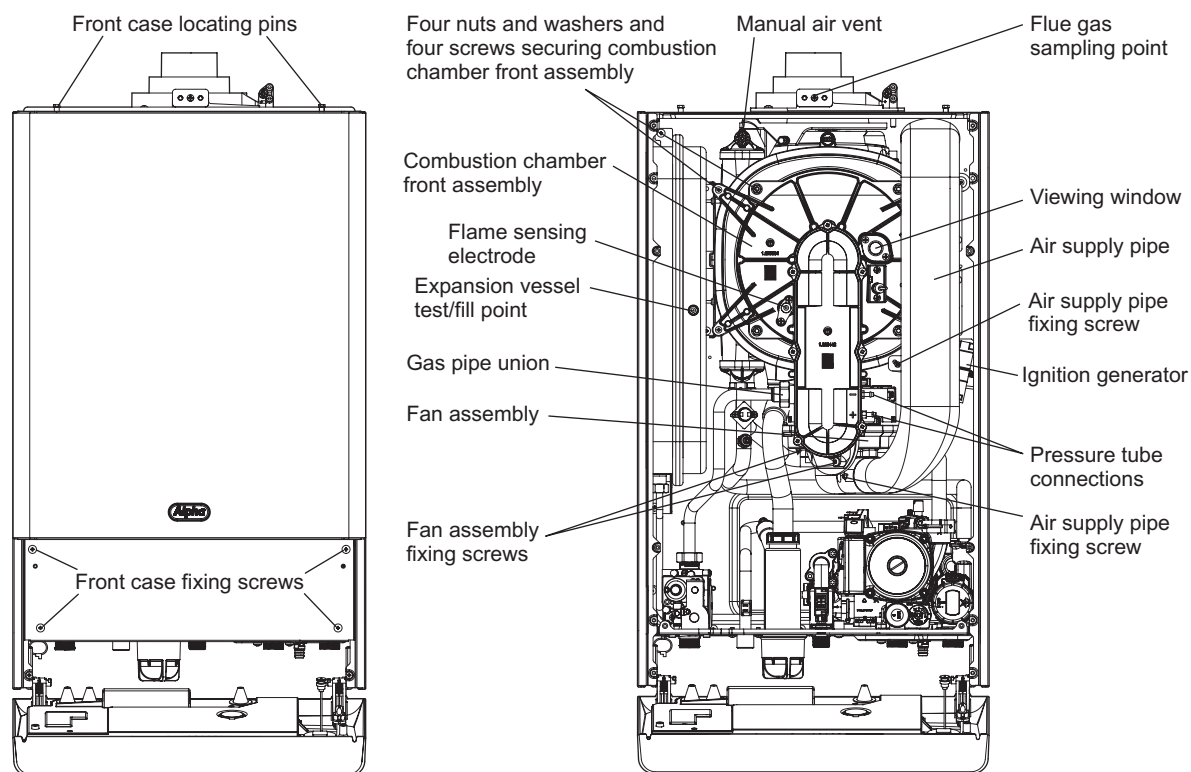

Fig. 21
Connect the flue gas analyser to the flue gas sampling point as shown in Fig. 21.
3. Refer to Fig. 21 for location of flue sampling point.
6.2 PREPARE FOR SERVICING - Fig. 21
7.1 GENERAL ACCESS - Fig. 21
7.5 BURNER INJECTOR - Fig. 21
7.6 FAN - Fig. 21
2. Remove the two screws securing the air supply pipe (see Fig. 21) and remove the pipe.
3. Unplug the fan plug and remove the two screws securing the fan to the combustion chamber front (see Fig. 21).
2. Remove the screw securing the air supply pipe (see Fig. 21) and remove the pipe.